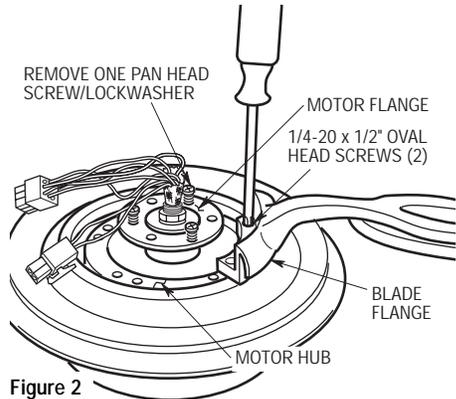

Figure 2
- 4. Position the blade flange on the motor hub so that the screws in the blades flange align with two threaded holes in the motor hub (Figure 2). Loosely tighten the screws at this time. Repeat this procedure for the remaining four blade assemblies.
- 6. Remove and retain one of the three pan head screw/lockwashers from the motor flange (Figure 2); loosen the other two pan head screws three or four turns.
- 7. Position the switch cup adapter on the motor flange so that the two screws mate with the two keyhole slots in the switch cup adapter (Figure 2).